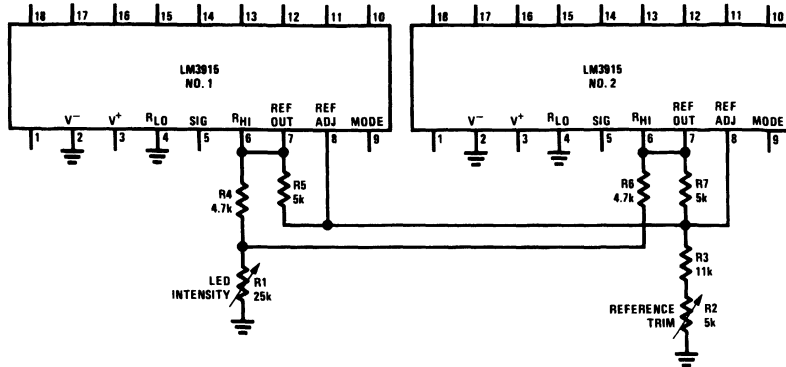

FIGURE 9. Independent Adjustment of Reference Voltage and LED Intensity for Multiple LM3915s
*Figure 9* shows how to obtain a common reference trim and intensity control for two LM3915s. The two ICs may be connected in cascade for a 60 dB display or may be handling separate channels for stereo. This technique can be extended for larger numbers of LM3915s by varying the values of R1, R2 and R3 in inverse proportion to the number of devices tied in. The ICs' internal references track within 100 mV so that worst case error from chip to chip is only 0.1 dB for  $V_{REF} = 10V$ .